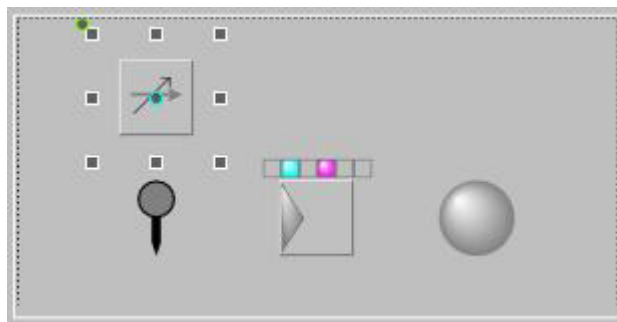

Figure 254. SPDelay object in Overview window
6. Move the SpDelay object to a suitable place as shown in Figure 254.